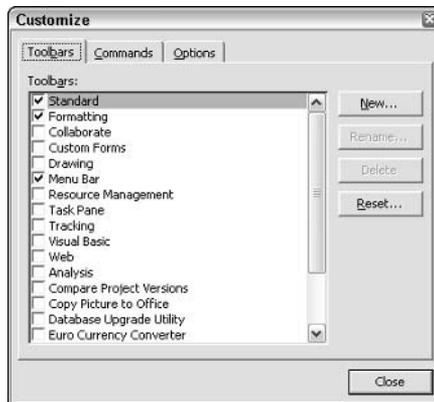

Figure 23-21: The toolbars that have a check mark here are currently displayed on-screen.
1. Choose View⇒Toolbars⇒Customize to open the Customize dialog box, as shown in Figure 23-21, and click the Toolbars tab.